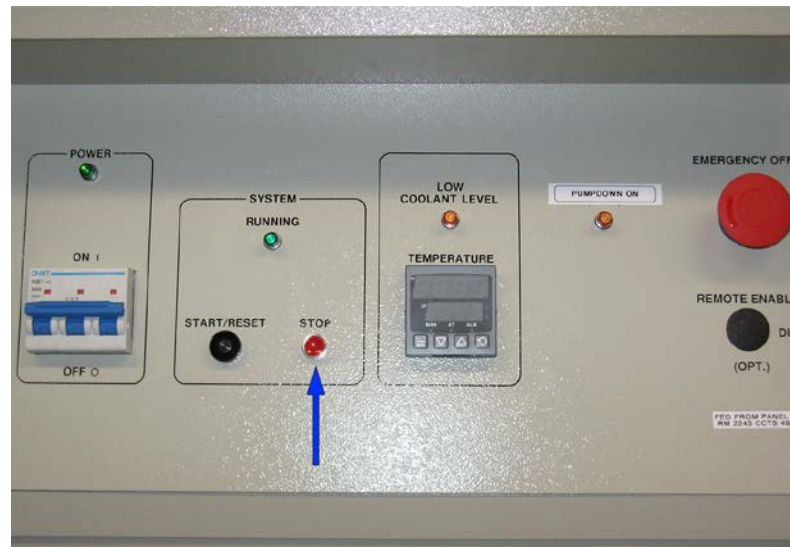

Figure 26. Turn off chiller if Spinmaster not in use.
- 8) Check if the Spinmaster is being used and if the users need the chiller to remain on. This is very important since you can ruin others' experiments by turning it off when still in use. If the Spinmaster still requires the chiller simply remove the "Insert User" tag and place it on top of the chiller to communicate that you are done with it. If not still in use for the Spinmaster, proceed to turn off the Water Chiller (Fig. 26).